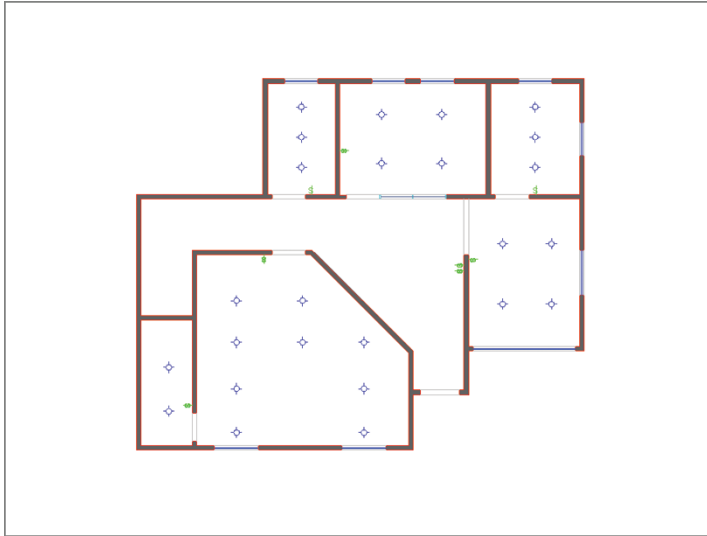

FIGURE 14.31 Previewing Layout2
13. Double-click outside the viewport on the drawing canvas to return to paperspace. Open the Application menu, choose the Print category, and then click Plot. Click the Preview button to open a preview window (see Figure 14.31).